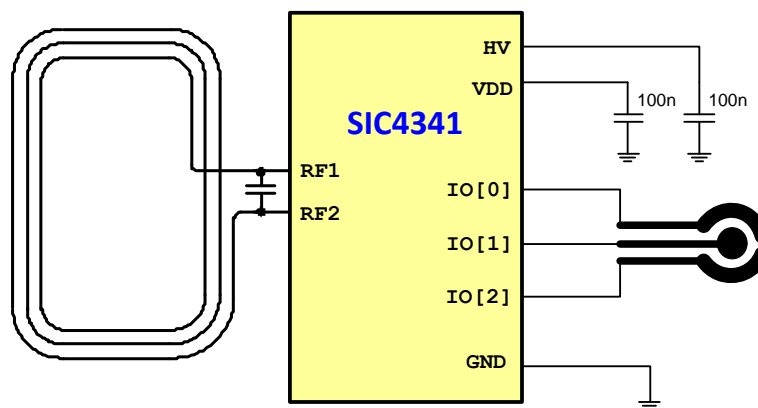

Figure 1: Basic SIC4341's connection with electrode
SIC4341 is NFC Tag type 2 with Potentiostat sensor interface circuit. Potentiostat sensor load is possible to be connected to IO[0], IO[1], and IO[2] pins (as Figure 1) which can be remapped to Reference Electrode (RE), Working Electrode (WE), and Counter Electrode (CE) depends on electrode footprint.